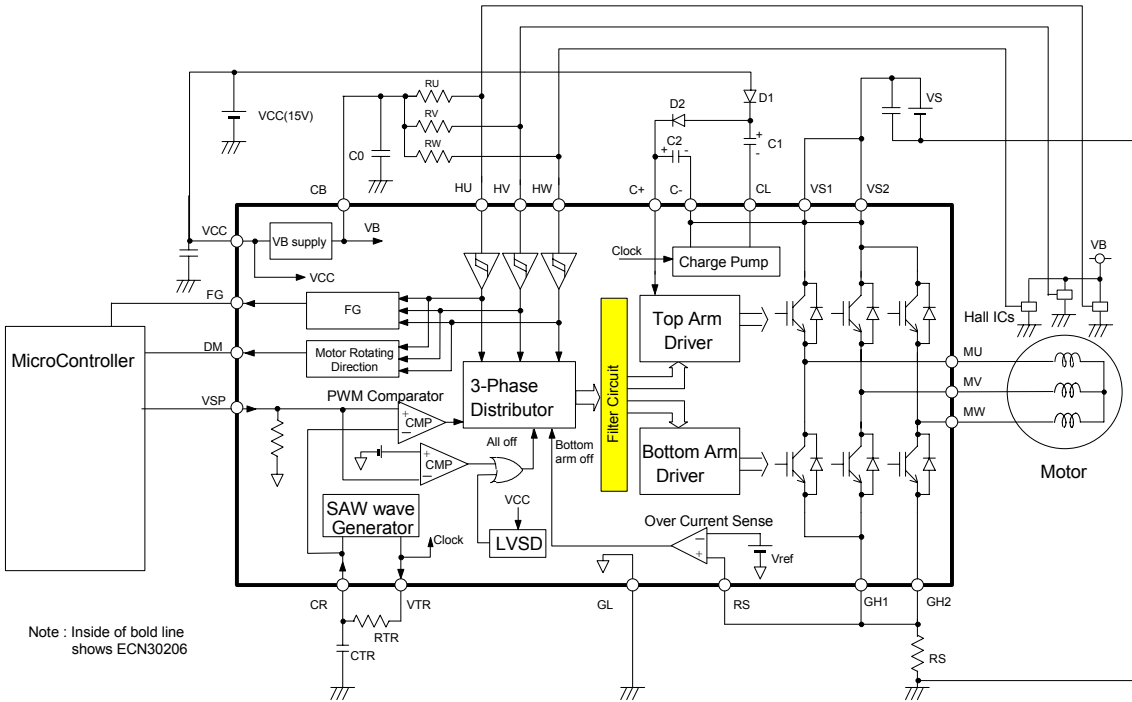

Fig.5-11. Block diagram of ECN30206
- Internal Filter circuit is located before the Top and Bottom arm drivers (see Fig. 5-11.).